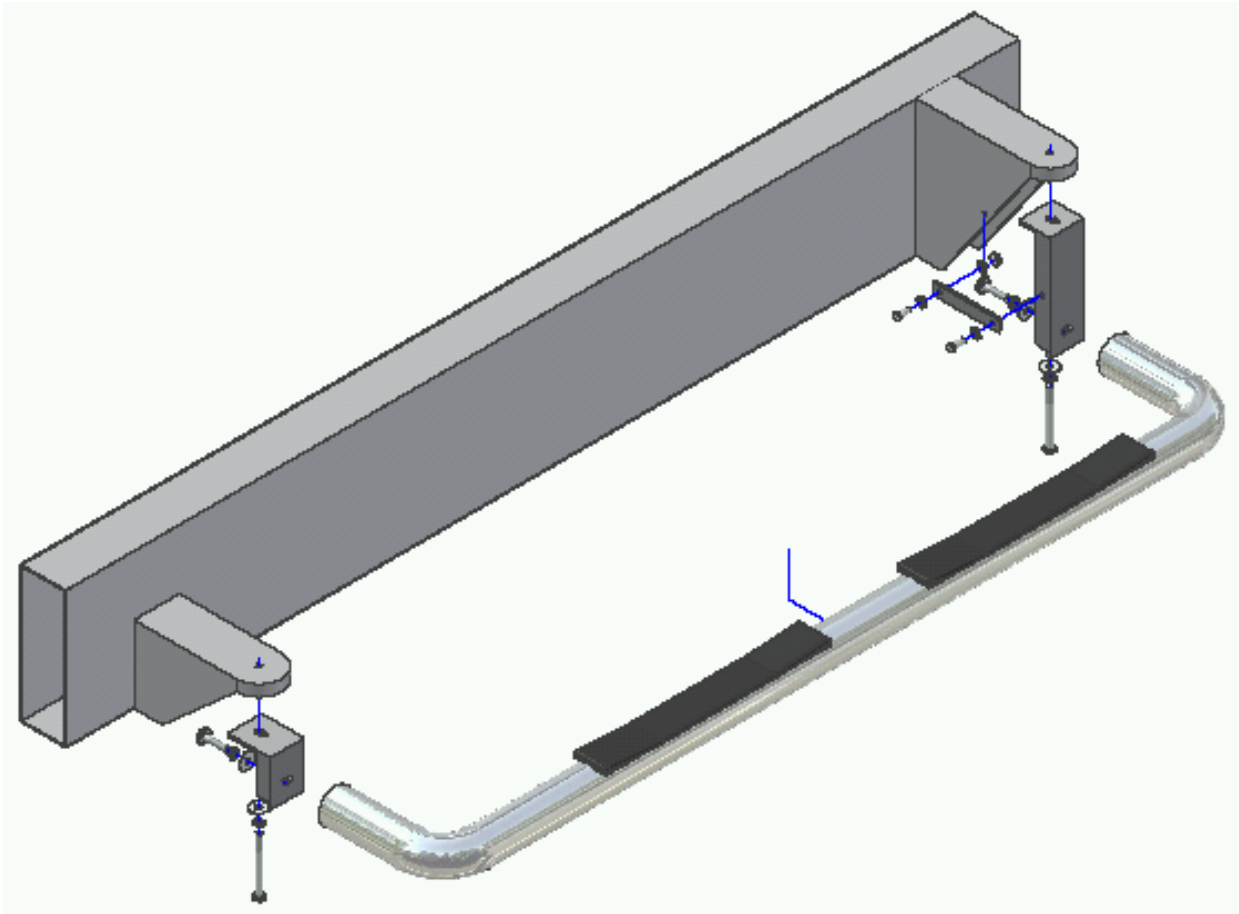

Figure 1.1 – Full Assembly View
1. Begin installation by working on driver side of the vehicle (see Figures 1.1 – 1.3).